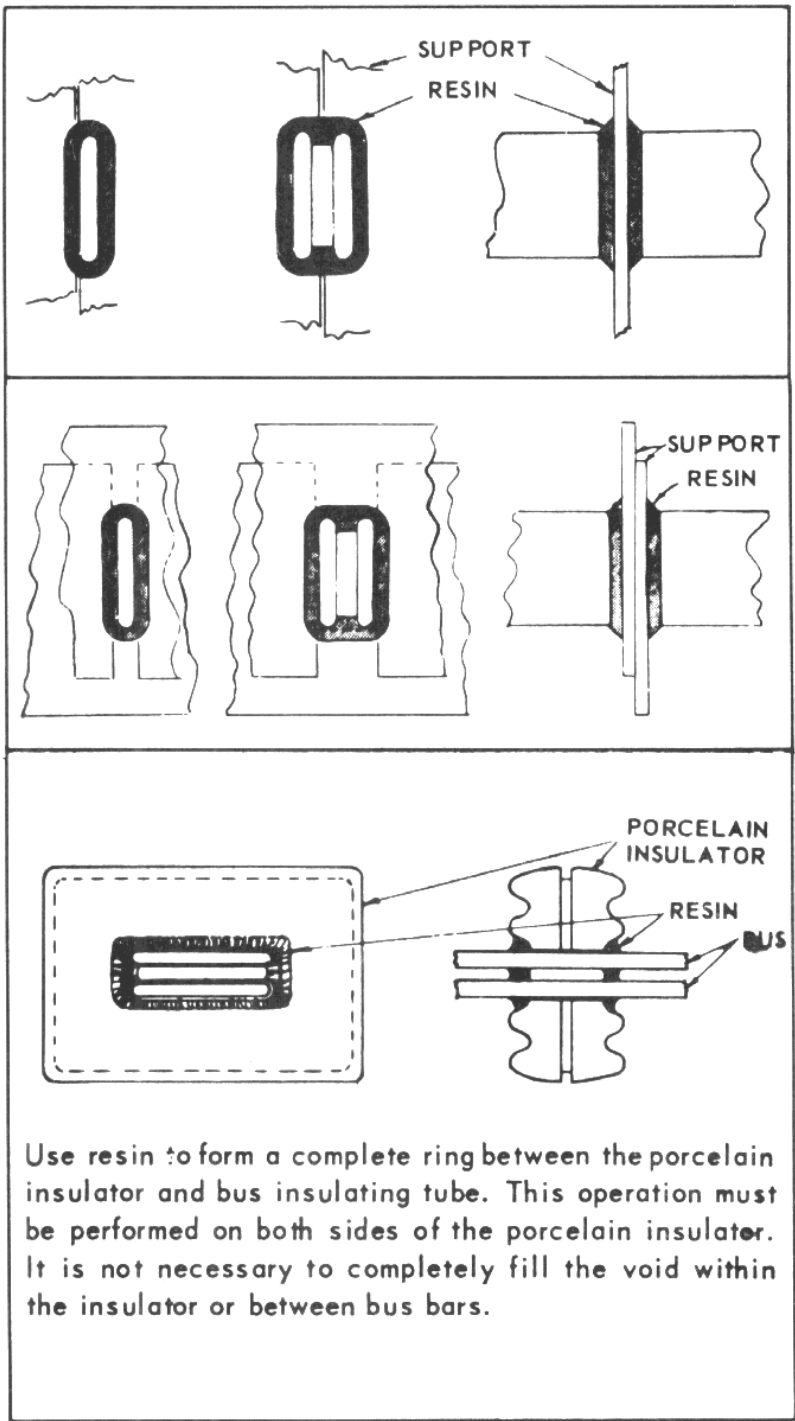

Figure 54. Caulking Bus Supports
6. Install connector caps or insulation boot as required. On 15 kv switchgear caulk all bus supports as shown in Figure 54.
- 2. Apply caulking material to make a continuous fillet completely around the bus bar insulation at the support (Figure 54). Make sure all air voids between insulation and support are filled. The material will cure completely in 24 hours at room temperature. Pot life is approximately 45 to 90 minutes.